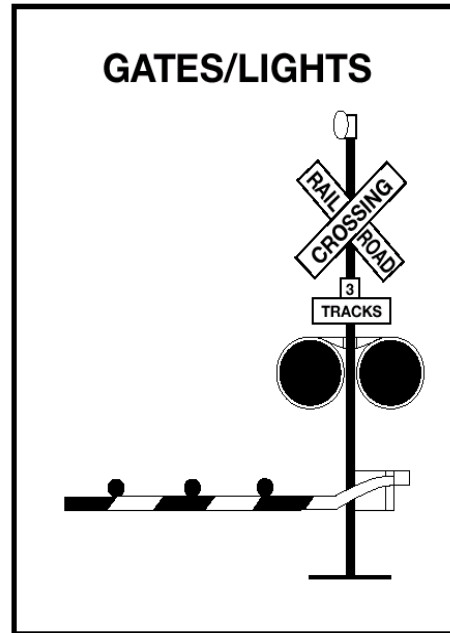

Figure 10.8
make sure all tracks are clear before crossing. See Figure 10.8.
**Gates.** Many railroad-highway crossings have gates with flashing red lights and bells. Stop when the lights begin to flash and before the gate lowers across the road lane. Remain stopped until the gates go up and the lights have stopped flashing. Proceed when it is safe. If the gate stays down after the train passes, do not drive around the gate. Instead, call your dispatcher. See Figure 10.8.